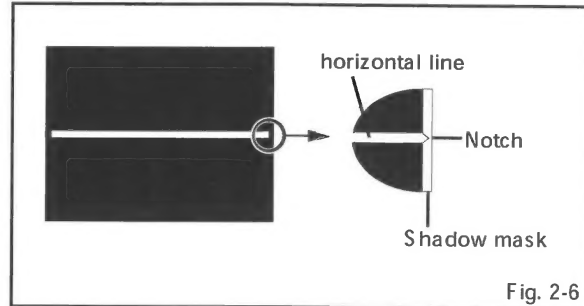

Fig. 2-6
3. Adjust the VR401 until the horizontal line becomes fit to the notch of the shadow mask. (Refer to Fig. 2-6)